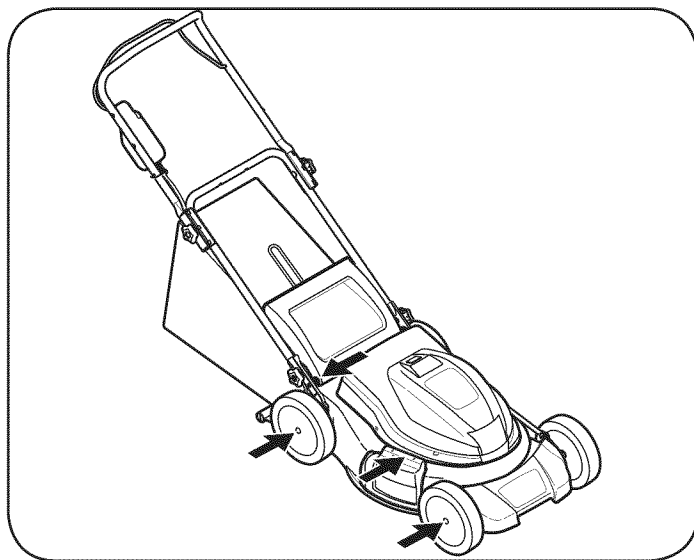

Figure 10
- Lubricate the wheels at least once a season with light oil (or motor oil). If wheels are removed for any reason, lubricate surface of the pivot arm and inner surface of the wheel with light oil. See Figure 10.
- Lubricate the torsion spring and pivot point on the rear discharge door and side mulch plug periodically with light oil to prevent rust. See Figure 10.